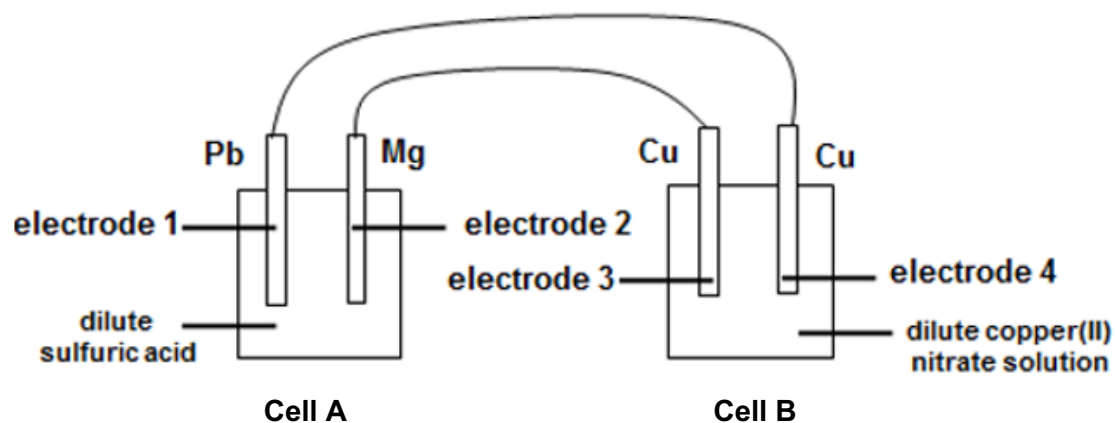

Fig 8.1
A8 Fig 8.1 shows an experimental set-up to coat an object with copper using electroplating.
- (a) On Fig 8.1, indicate the direction of electron flow. Explain your answer.